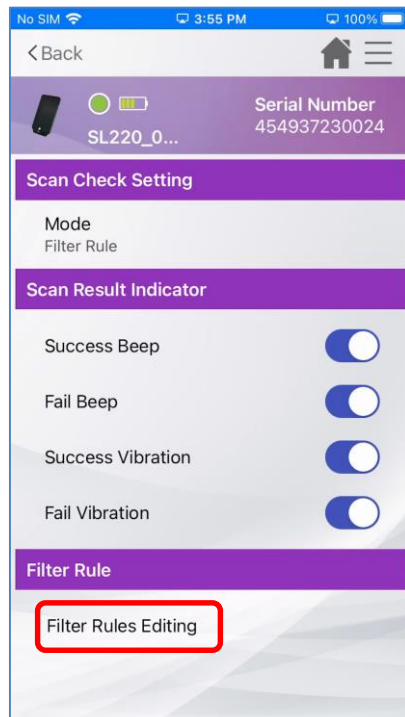

Figure 7.4.1
- User can add data wish to be matched in to Lookup Table by entering Filter Rules Editing under Scan Check Setting (Figure 7.4.1).